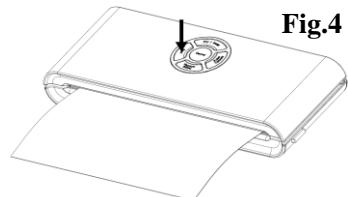

Fig.4
5. Press the seal button to start sealing the bag – **Fig. 4**
7. The vacuum packaging is done. Simultaneously press the release buttons on the both sides of the appliance to open the cover and take out the sealed bags – **Fig. 4.**